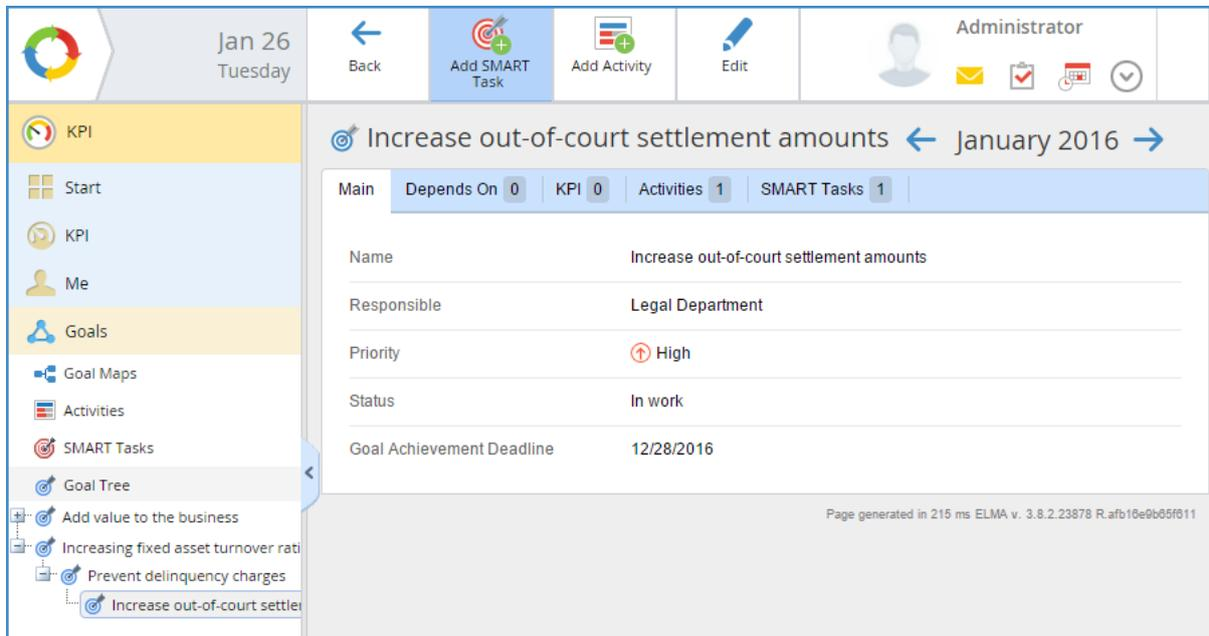

Fig. 114. Goal page
**Goal page** – is a page that specifies components of the goal and allows editing information about it. Here you can change the following fields: **Responsible**, **Priority**, **Status**, **Goal Achievement Deadline**, as well as create **SMART tasks** and **Activities** (Fig. 114).